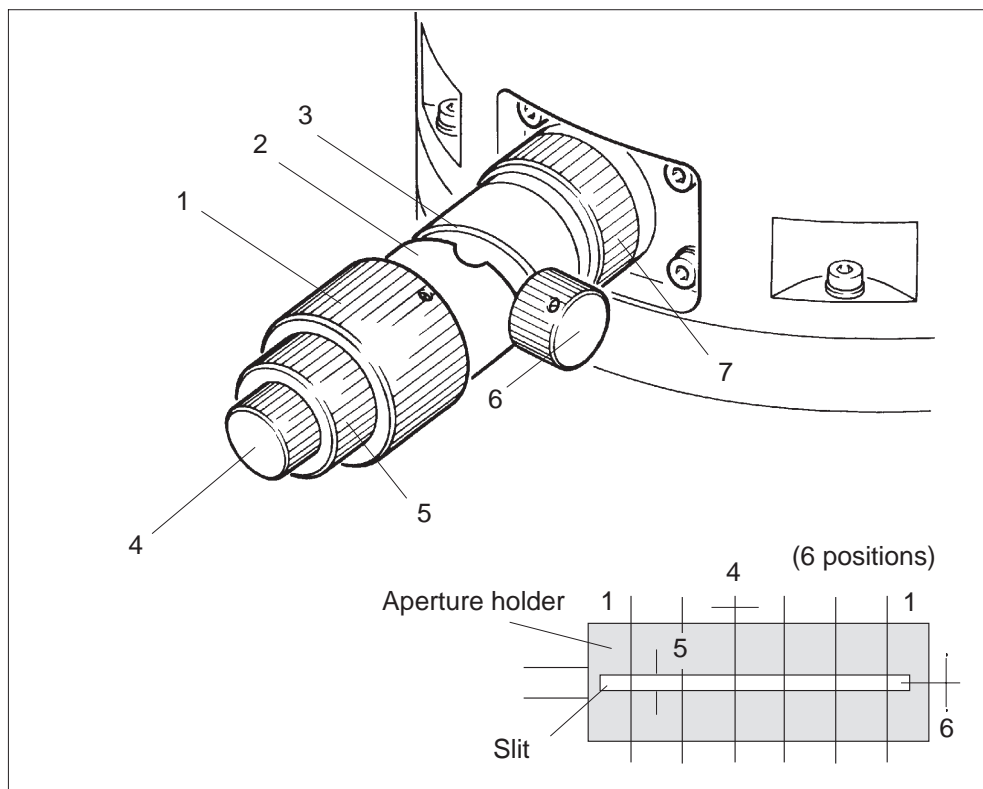

Fig. 1-45: Slit aperture drive
With the slit aperture drive you select the slit area and precisely adjust the slit aperture. The mechanical design is described below, the possible adjustments are shown in Fig. 1-45.
- With the large knurled knob (1, Fig. 1-45) on the front of the drive the aperture holder can be shifted longitudinally in 6 positions. Notches (3) inside guide (2) let the drive snap in at the individual positions.
- With the small knurled knob (4) on the front the aperture is precisely adjusted in longitudinal direction.
- Knurled knob (5) in the middle serves to vary the slit width of the aperture.
- The slit is adjusted in the energy axis with the small knurled knob (6) at the side of the drive.
- Knurled ring (7) on the column is a retaining ring which secures the slit aperture drive to the column.